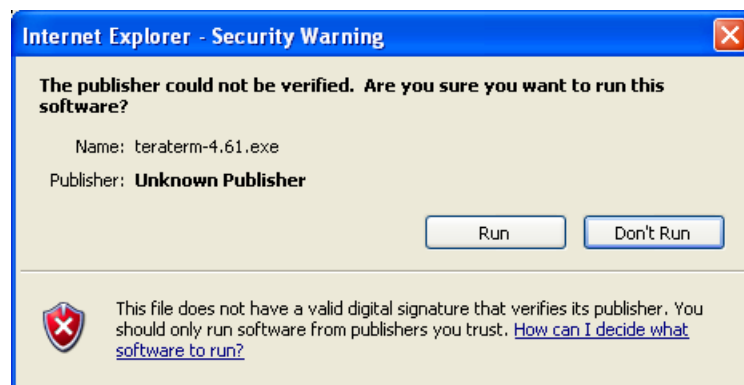

Figure 6-4: Internet Explorer Security Warning
- If the security warning screen appears, click **Run** (Figure 6-4).